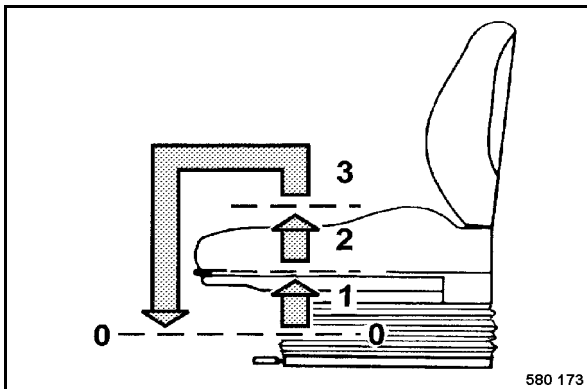

Fig. 73
- To adjust the height of the seat lift the seat up (Fig. 73) until it engages at the desired level.